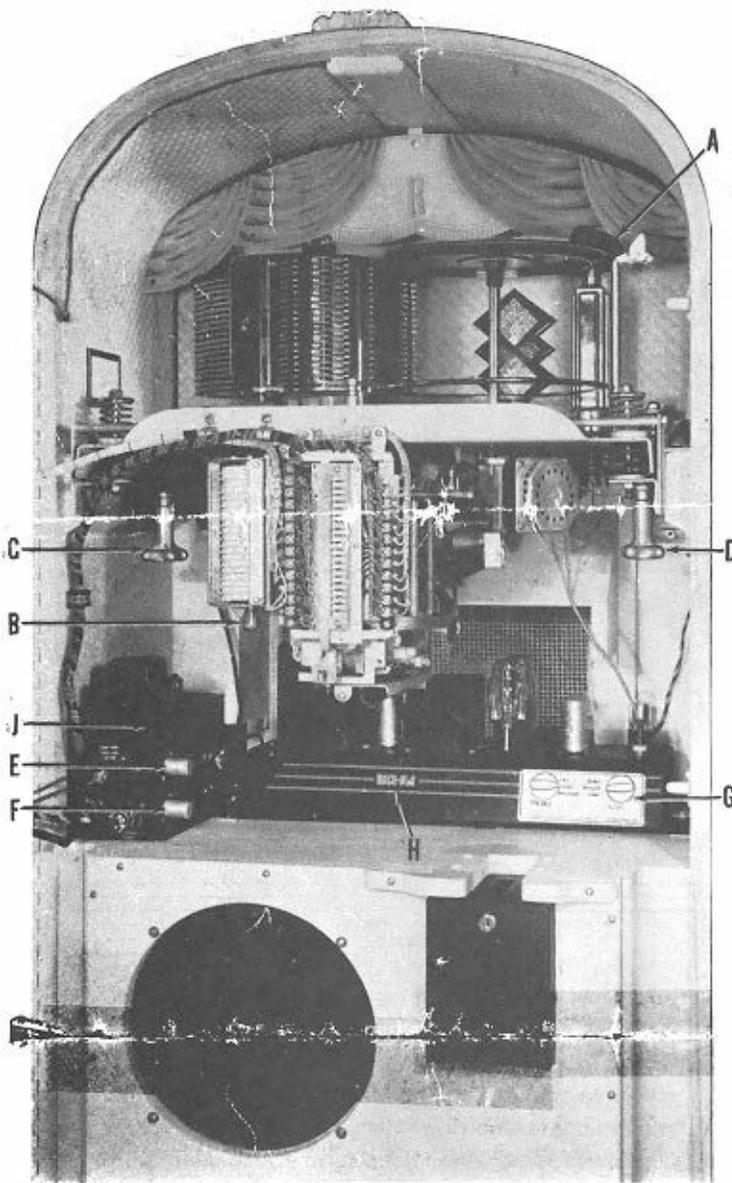

Fig. 2 – Interior Front View
1. Make sure that tubes and plug-in condensers in amplifier are tight in sockets (*II-Fig. 2*).
2. Check plugs on electrical distribution panel (J-*Fig. 2*) to make certain all are tight in sockets.
1. Treble and bass controls easily adjust amplifier tone for individual locations (G-*Fig. 2*).
15 watt fluorescent starter (E-Fig. 2) for inside front door fluorescent light.
20 watt fluorescent starter (F-Fig. 2) for Magic-Glo fluorescent light.
1. Loosen thumb screw on tone arm (A-Fig. 2).
1. Push in bar (B-Fig. 2).
Unscrew large wing nuts (C and D-Fig. 2) on each side until fully extended. If these nuts are not unscrewed before operating phonograph, an acoustic howl will result. (Always clamp mechanism when transporting phonograph).